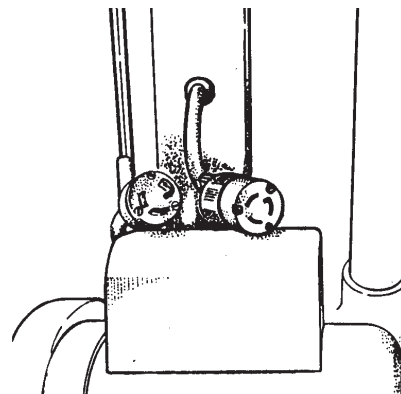

Figure 3
- 3 Twist and remove handle pigtail from motor cord. (Figure 3)